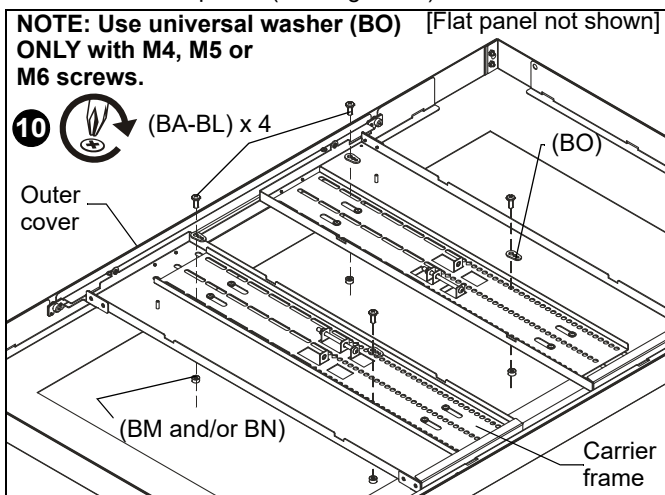

Figure 11
9. Place carrier frame onto back of flat panel and match the VESA pattern on flat panel to the carrier frame mounting slots. Also match the threaded studs in outer frame to the hooks on the carrier frame. (See Figure 11)
10. Use selected screws (BA-BL), washers (BO--if required), and spacers (BM, BN--if required), to connect carrier frame to back of flat panel. (See Figure 11)